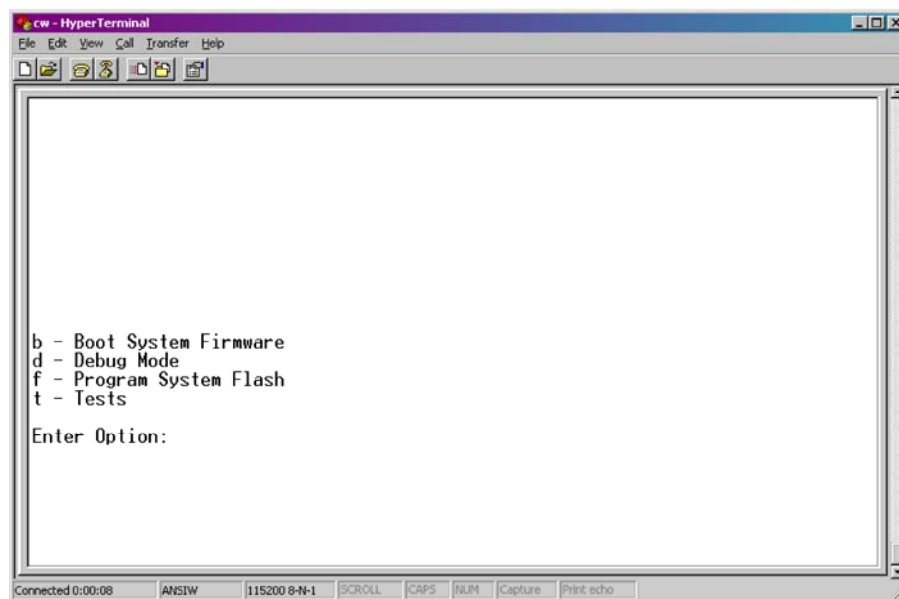
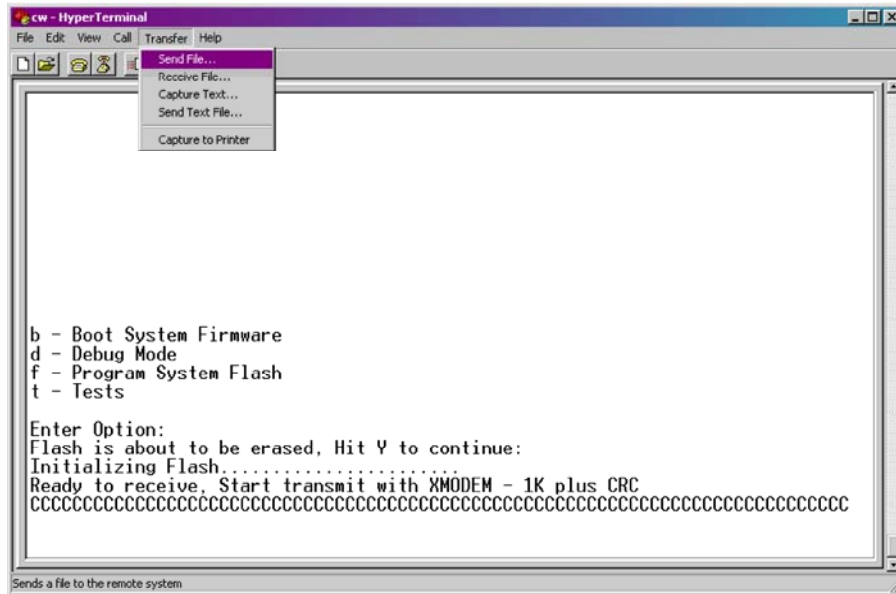
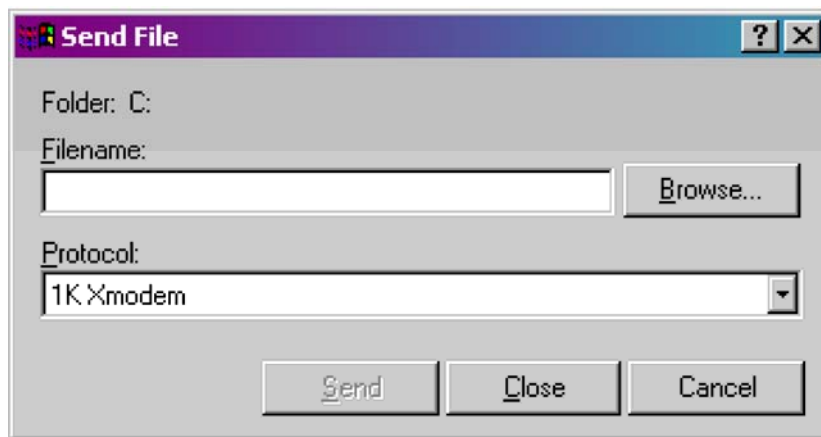

Figure 2-29 - HyperTerminal Recovery Mode Menu
Figure 2-30 - HyperTerminal FLASH Download Menu (Ready to Download) - (Transfer/Send File Selected)
Figure 2-31 – HyperTerminal Flash Download (Send File Dialog Box)
From the HyperTerminal Recovery Mode menu (Figure 2-29), press the 'F' key to enter FLASH download. A message will be displayed warning that the FLASH is about to be erased; press the 'Y' key at the prompt. The screen will display dots as the flash devices are being erased; this could take a few minutes.
5. When the FLASH is ready for download the letter C will be displayed on the screen. In the HyperTerminal command bar click on Transfer and then Send File (see Figure 2-30). In the Send File Dialog Box (see Figure 2-31), select “1KXmodem” for the protocol, enter the filename of the appropriate .bin file in the format “CWIxxxxx.bin” (where xxxxx varies from release to release). Click on the Send button to start the download (see Figure 2-31). When the HyperTerminal Recovery Mode Menu of Figure 2-29 appears, the download has completed.